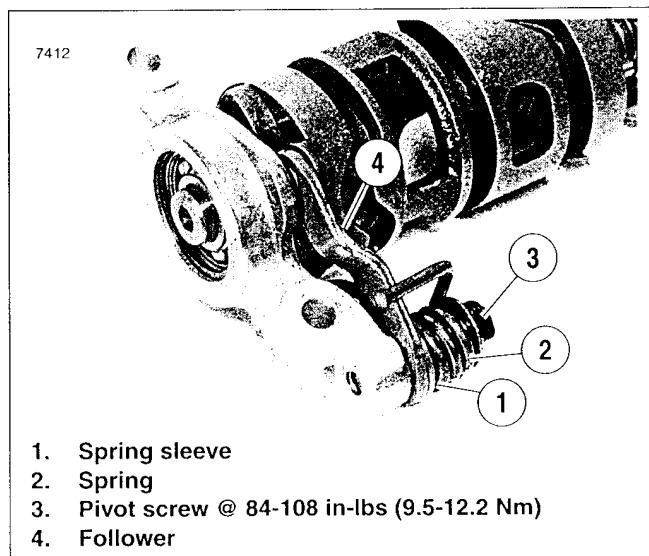

Figure 7-9. Detent Arm Assembly
- e. See Figure 7-9. Slide spring sleeve (1) inside the spring (2). Place follower (4) under sleeve and use pivot screw (3) to attach assembly to right support block. Tighten to 84-108 in-lbs (9.5-12.2 Nm).